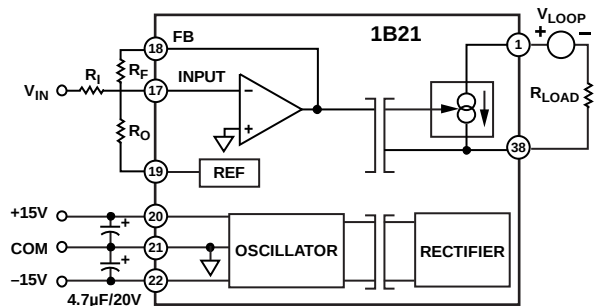

Figure 4. Basic Interconnections
Changes to Inside the 1B21 Section, Figure 4, Using the
The 1B21 has been designed with a flexible input stage for a variety of input and output ranges. The basic interconnection for setting gain and offset is shown in Figure 4. The output of the internal amplifier is constrained to 0 to -5 V, which maps into 0 to 20 mA across the isolation barrier. Thus to create a 4 mA offset at the output, the input amplifier has to be offset by 1 V.
The specifications for gain and offset temperature coefficient (TC) for the 1B21 excluded the effects of external components. The total gain TC for the circuit in Figure 4 is